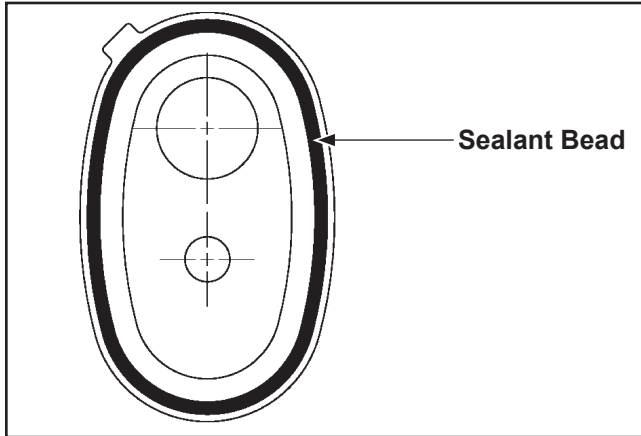

Figure 10-29. Sealant Applied to Breather Cover.
2. Invert the breather housing (cover) and apply a 1.5 mm (1/16 in.) bead of RTV sealant to the perimeter flange of the outer housing (cover) as shown in Figure 10-29. Use Loctite® 5900 or 5910, Kohler Part No. 25 597 07-S.